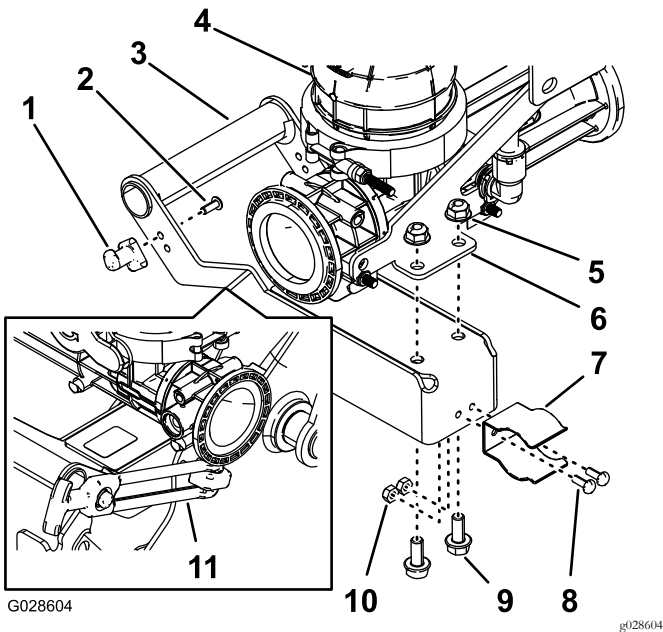

Figure 21
1. Assemble the latch post to the handle of the eductor (Figure 21) using the 2 socket-head screws (#10-24 x 1/2 inch).
2. Assemble the spring clip to the latch handle (Figure 21) with the 2 bolts (#10-24 x 1/2 inch) and 2 locknuts (#10-24).
3. Assemble the handle to the mount plate for the eductor (Figure 21) with 2 flange-head bolts (5/16 x 3/4 inch) and flange locknuts (5/16 inch).